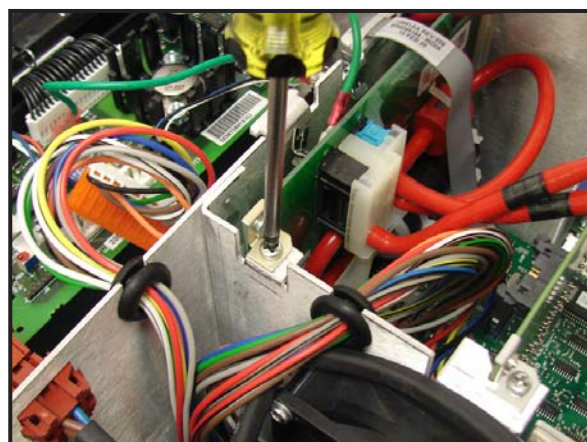

Figure 6-11
7. Use a Phillips screw driver to remove the two screws that attach the pneumatics board to the chassis (See Figure 6-11).
3. Use a Phillips screw driver to remove the two screws that attach the pneumatics board to the chassis (See Figure 6-11).